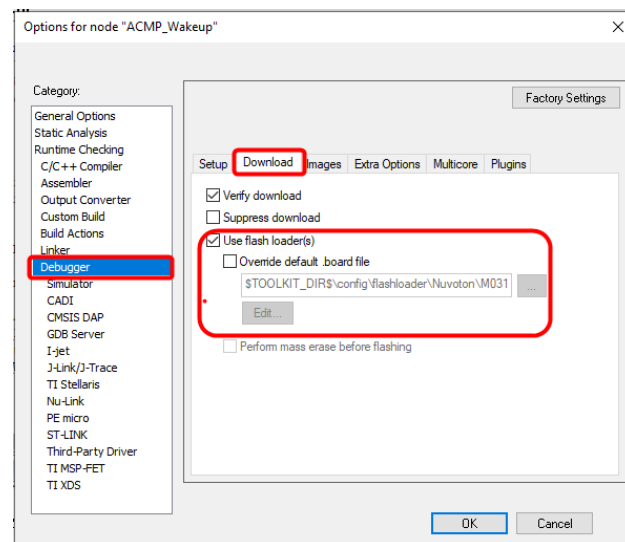

Figure 4-17 IAR EWARM Programming Settings
Step 5: In the **Download** tab of the **Debugger** page, make sure that the **Use flash loader(s)** option is selected, as shown in Figure 4-17.